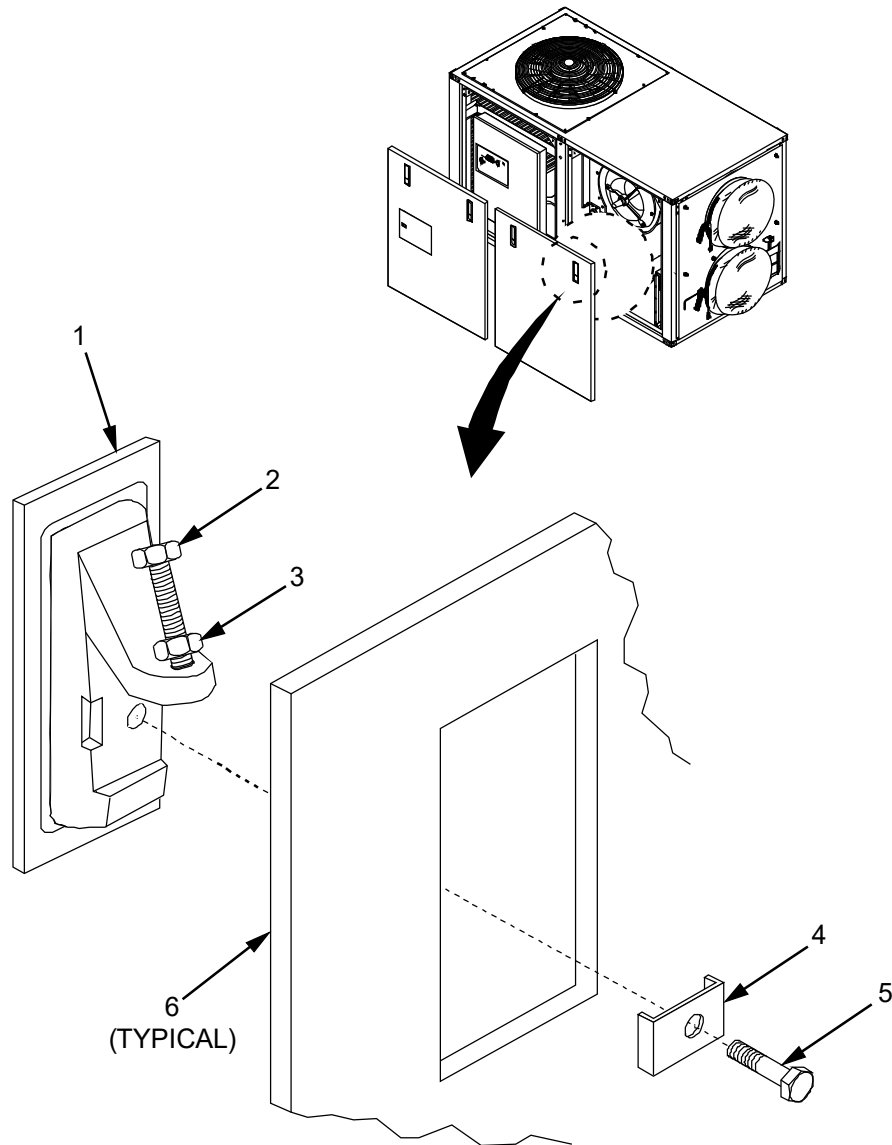

Figure 1. ECU Access Panel Latch Replace.
2. Remove the ECU access panel (Figure 1, Item 6) with the broken latch.
3. Remove and retain screw (Figure 1, Item 5) and back plate (Figure 1, Item 4) from rear of the latch (Figure 1, Item 1).
4. Remove latch (Figure 1, Item 1) from access panel (Figure 1, Item 6).
1. Insert new latch (Figure 1, Item 1) into access panel (Figure 1, Item 6).
2. Secure latch (Figure 1, Item 1) to access panel (Figure 1, Item 6) using screw (Figure 1, Item 5) and back plate (Figure 1, Item 4).
3. If necessary, adjust screw (Figure 1, Item 2) and stop nut (Figure 1, Item 3) to proper level so latch (Figure 1, Item 1) operates properly.
4. Reattach the repaired ECU access panel (Figure 1, Item 6).